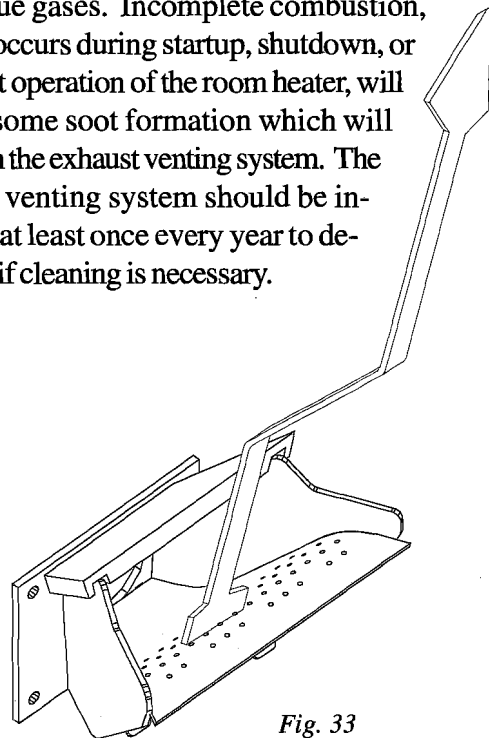

Fig. 33
10. Scrape burnpot with flat end of scraper provided with the stove. Fig. 33.